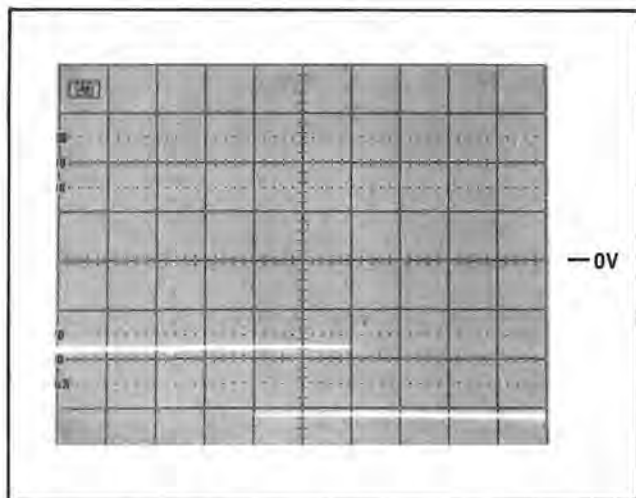

Figure 5-8. Input Amplifier Adjustment Waveform*
g. Adjust A12R105 (offset) to position the waveform at the center of the screen. Adjust A12R110 (hysteresis) 20 mV p-p on the X-axis. Refer to the waveform in Figure 5-8.
k. Adjust A12R53 (offset) to position the waveform at the center of the screen. Adjust A12R43 (hysteresis) for 20 mV p-p on the X-axis. Refer to the waveform in Figure 5-8. This completes the adjustment of Channels A and B; turn the 5335A off and disconnect all test equipment.
- b. Connect the test equipment as per Figure 5-8. ⁵⁻¹¹